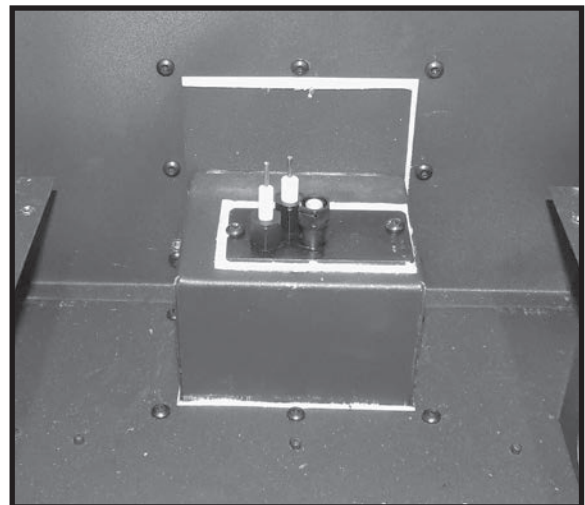

Figure 59: Control panel front side screws.
9. Remove the two Philips screws securing the pilot head assembly to its support (Figure 59).
10. Remove all of the screws surrounding the support. These include screws on the floor in front of the support and on the wall behind the support (Figure 59).